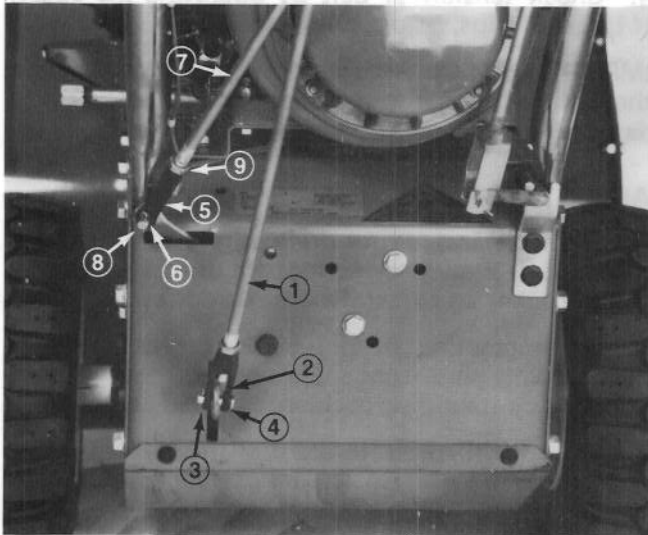

Figure 35
6. Loosen jam nut from clevis at bottom of longest wheel drive control rod (Fig. 35). Next remove cotter pin and clevis pin holding clevis to link arm (Fig. 35). If rubber drive wheel is too close to the front pulley, lengthen the rod by rotating clevis (Fig. 35) one half turn counterclockwise. By contrast, if rubber drive wheel is too close to the rear friction disc, shorten the rod by rotating clevis (Fig. 35) one half turn clockwise.
8. Move wheel drive control to N, neutral. Next, connect clevis to link arm with clevis pin and cotter pin (Fig. 35). Also, tighten jam nut against top of clevis (Fig. 35). Lastly, install rear shroud with four thread forming screws, and move snowthrower back to its normal position.